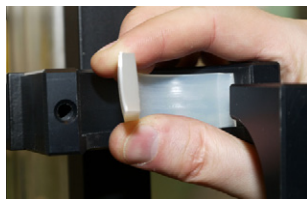

Fig. 57—Mount the silicone strips.
8. Mount the silicone strips in the front and back halves of both new clamps (Fig. 57). The silicone strip cushions the column within the clamp and prevents it from cracking.